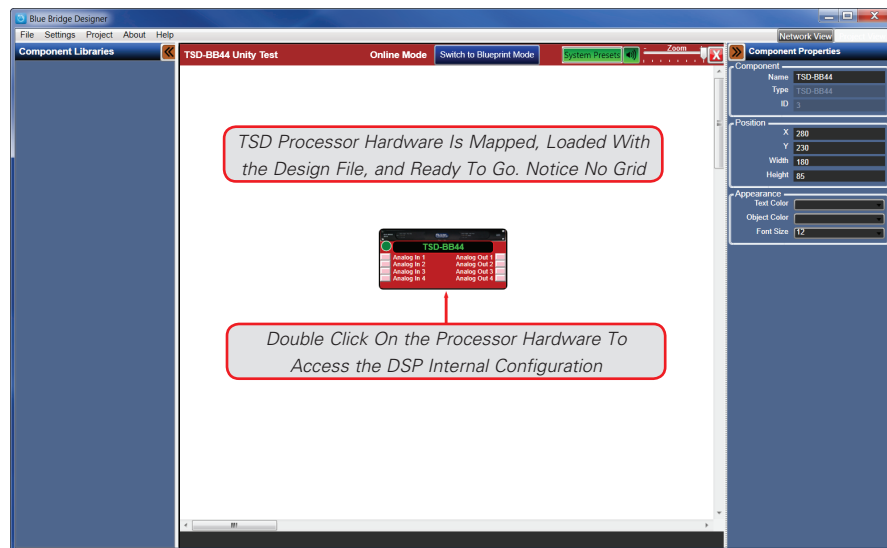

Figure 20
- The TSD Processor is now Online (Live) and ready to be controlled. (Notice the grid is gone and the background is solid as shown in Figure 20. This is a good visual tool to indicate the Processor is Online.)